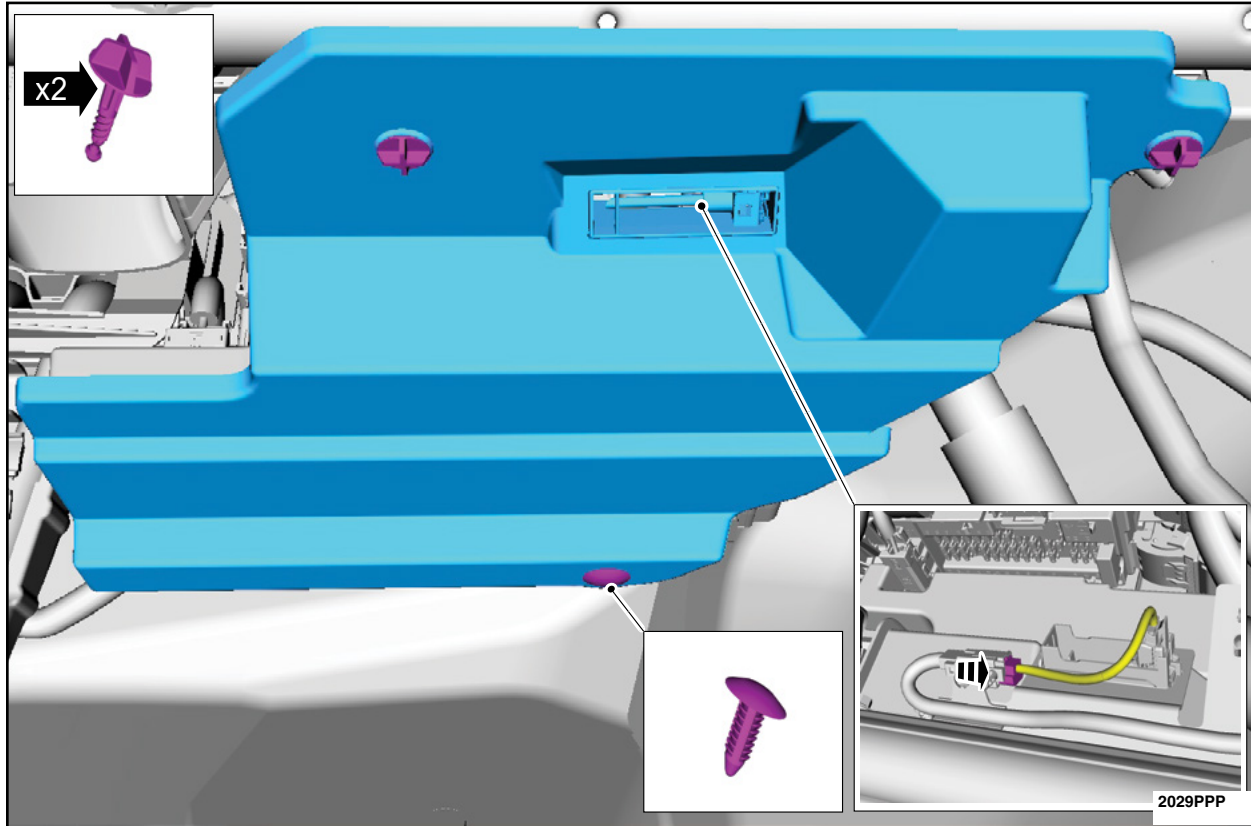

FIGURE 11
14. Install the lower LH side instrument panel insulator. See Figure 11.